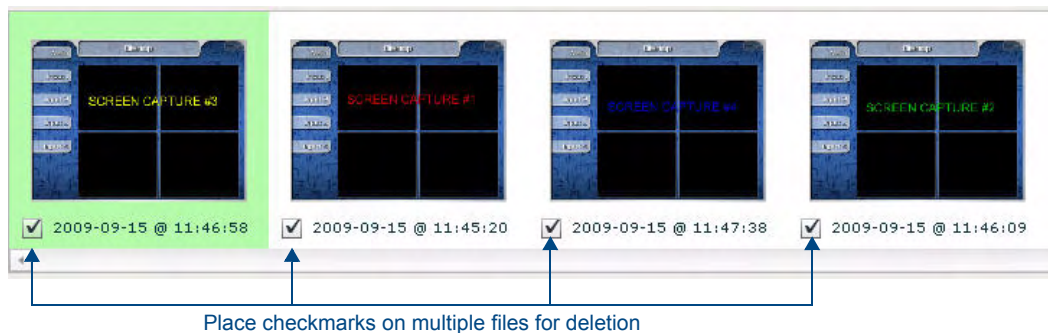

FIG. 130 Multiple files checked for deletion
2. In the Thumbnail Images window, place a check in the checkbox of each image file that you want to permanently delete from the TPI-PRO/DVI's local disk (FIG. 130).